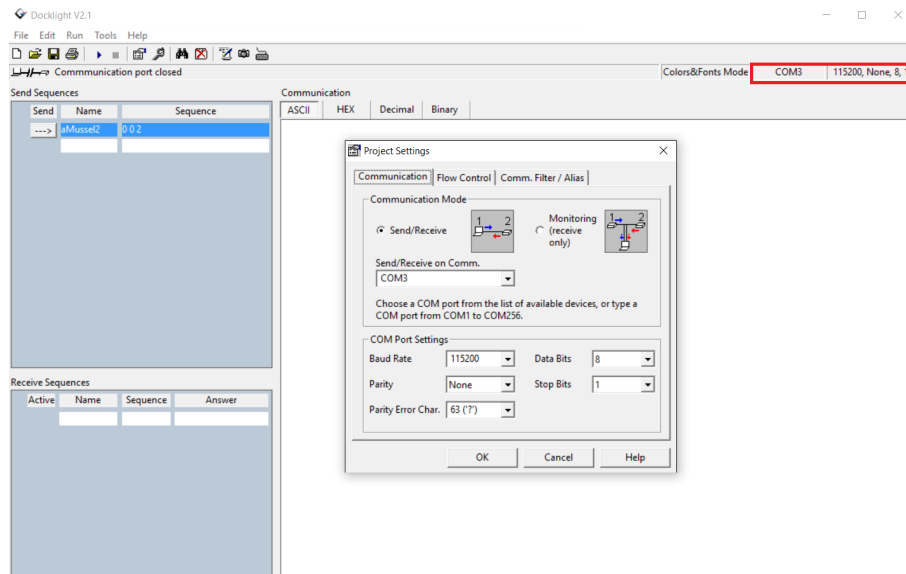

Figure 1.4: Selecting the COM port
3. Connect to the correct COM port. Port can be selected by double clicking on top right sections of status bar (indicated with red rectangle in Figure 1.4). After selecting the port, make sure the settings are matching the ones in the figure. Now you can simply press the play button to establish connection.